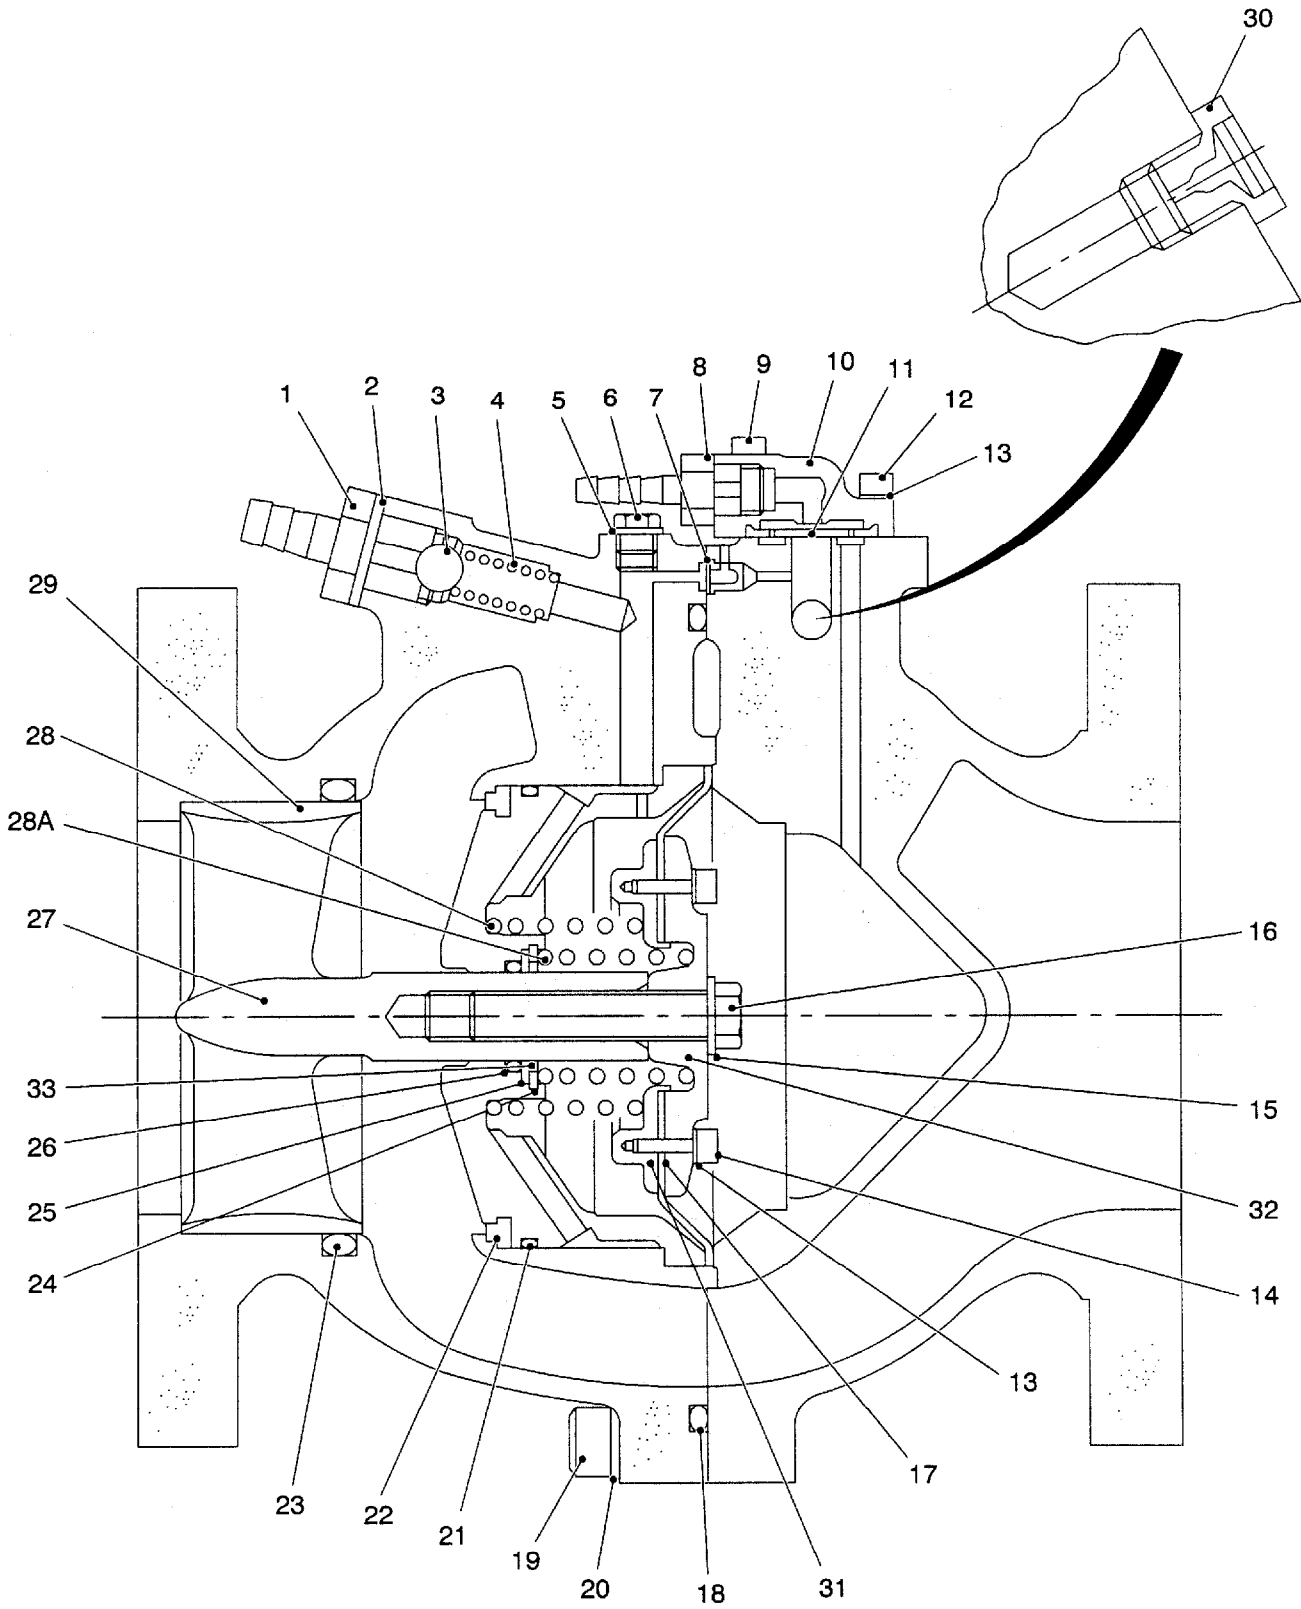

Figure 2
7.1 Dismantling (refer to Figure 2)
7.3 .6 Position the diaphragm (17) on the diaphragm carrier (31), place the diaphragm clamp plate (32) in position, (as shown in Figure 2), and secure with the twelve cap head screws (14) and spring washer (13). Tighten the screws in a diametrical sequence to a torque of 0.5 kg m (4ft lbf). Repeat the sequence three times to ensure even torque on all screws.
7.3 .9 Fit the small diaphragm (7) into position as shown in Figure 2.